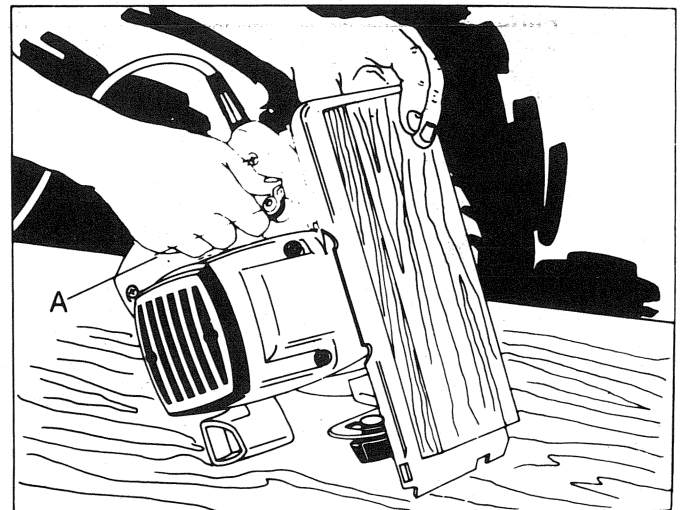

FIGURE 3
2. Place the saw in the position shown in Figure 3 and loosen depth adjustment wing nut "A".